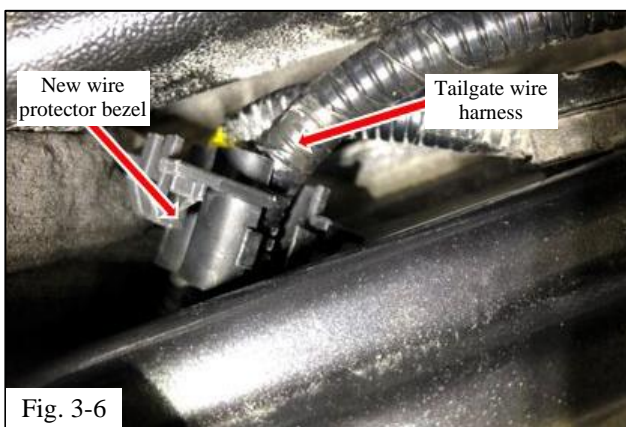

Fig. 3-6
- (f) Position each wire protector bezel as shown in Fig. 3-6 & Fig. 3-7. Fit the tailgate wire harness into the top and the vehicle camera wire harness into the bottom hole.